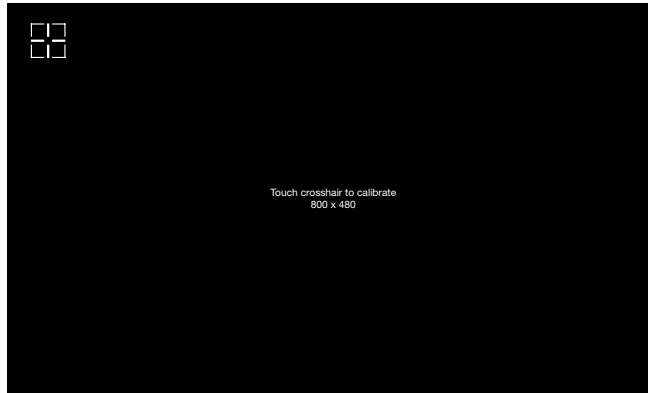

Figure 21. Touch Calibration Screen
2. Release the button. The calibration screen opens to show cross-hairs (see figure 21, above).